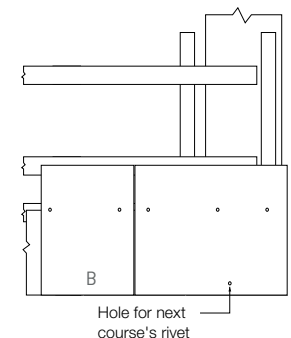

Fig. 7 - 2nd under eaves course
- 4 Cut and fix second under-eaves course to the lower batten with slate-and-a-half widths at the verge (Fig. 7). Prior to fixing slate-and-a-half slate, drill (4.0mm dia.) hole half a slate width in from verge and 25mm up, and insert a copper disc rivet for fixing first full slate course.